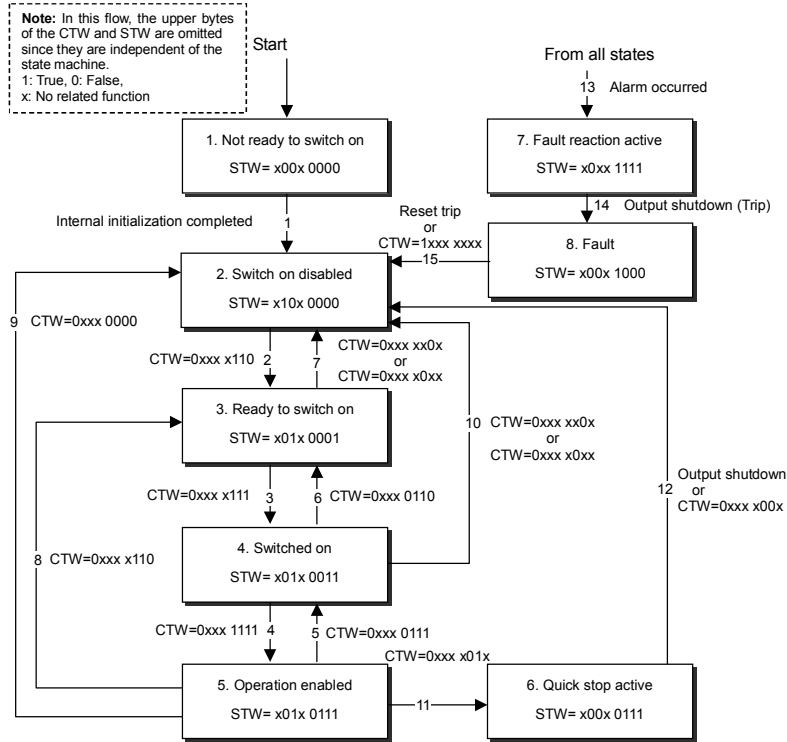

Figure 11.1 State Machine
- bits 0 to 3 : Control the state machine for state transition. See Figure 11.1.
- bits 0 to 2, 5, 6 : Status display of the state machine. See Figure 11.1.
Operating the state machine (the state transition flow in Figure 11.1) stipulated in the DSP 402 drives the inverter. Controlword (CTW in the figure) causes the state transition of the state machine, and Statusword (STW in the figure) monitors the state.
Transition to State 5 "Operation enabled" (see Figure 11.1) sets the inverter in run state.